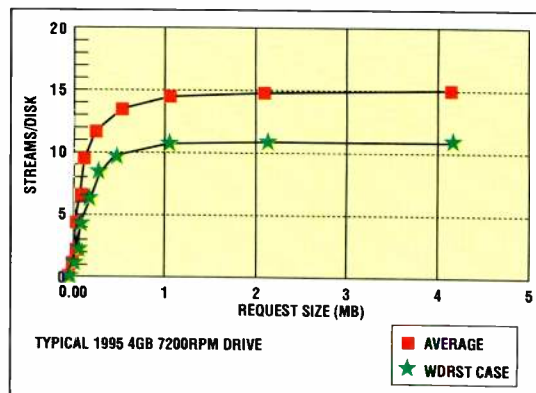

Figure 2. Average and worst-case performance of a 7,200rpm drive when supporting multiple 3Mb/s video streams.
This same drive, if worst-case performance is evaluated (full-throw seeks, full-revolution rotational latencies), only supports about 10 streams of video at the same compression rate. For better-quality video streams (e.g. lower compression), which require higher data rates, the number of streams supported by this class of drive drops. Figure 2 depicts graphically the performance of this type of drive for varying data request lengths (L).